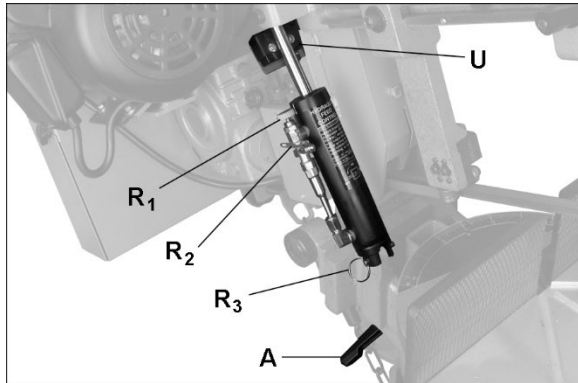

Figure 7-11: feed rate adjustment
To increase feed rate, turn dial ( $R_1$ , Figure 7-11) counterclockwise. To decrease, turn clockwise.
3. Pull linch pin (R3, Figure 7-11) out of cylinder, and raise bow to vertical position. Make sure swivel locking handle (A, Figure 7-11) does not obstruct bow positioning.
- If saw completes cut but blade continues moving, adjust limit switch bracket (U, Figure 7-11) downward.
- If blade stops before cut is complete, adjust limit switch bracket (U, Figure 7-11) upward.